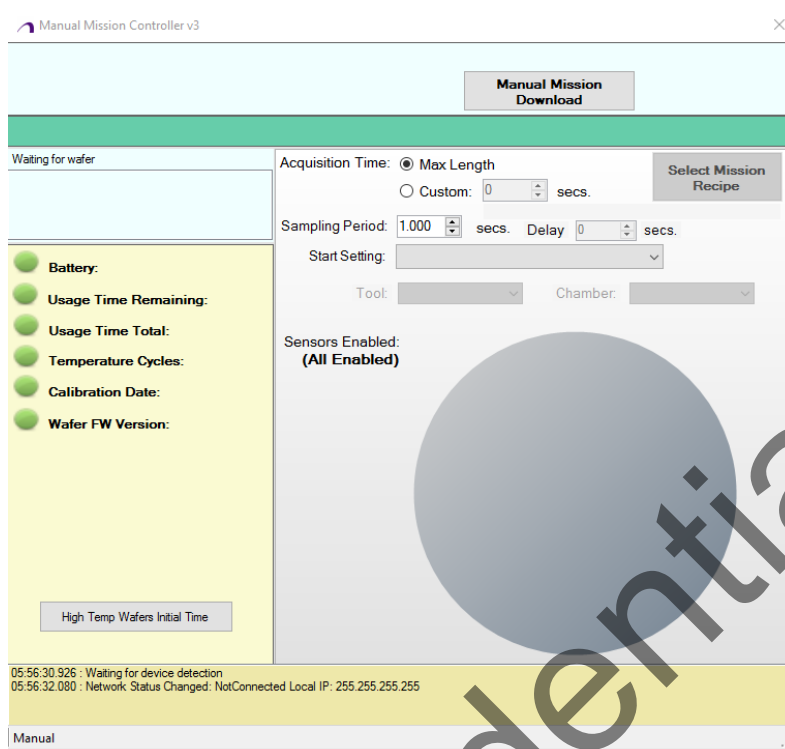

Figure 5-21 Manual Mission Controller window – Waiting for device detection
1. Click **Manual Mission** on the **SAT** launcher UI. You can see the communication window opens, as shown in Figure 5-21.